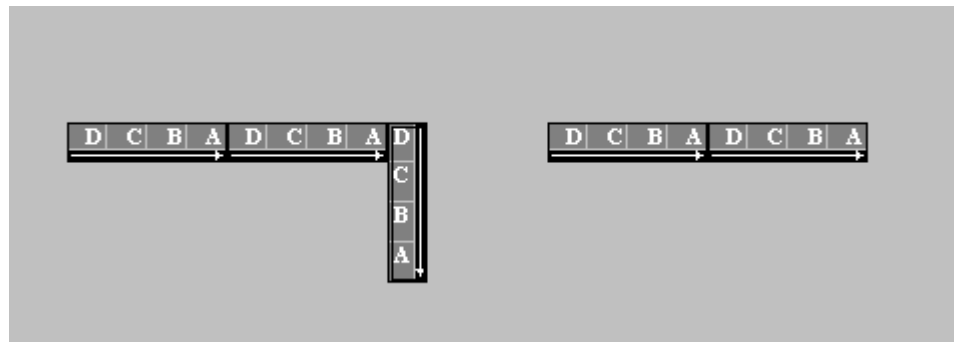

Fig. 4.17
- Click on **Down** position to change the direction as shown in Fig. 4.17.